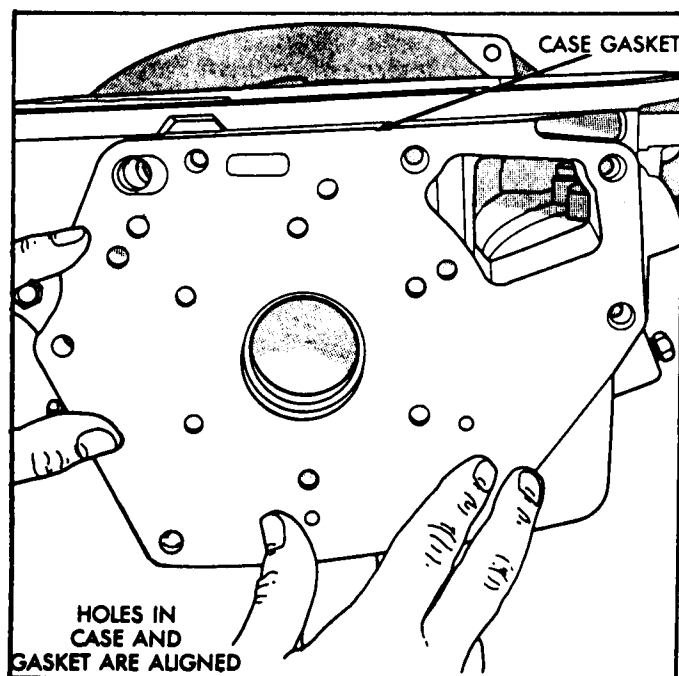

Figure 129
7. Install new gasket on rear of the case, as shown in Figure 129, and retain with small amount of Trans-Jel.
8. Ensure holes in the new gasket align with the holes in case (Figure 129).